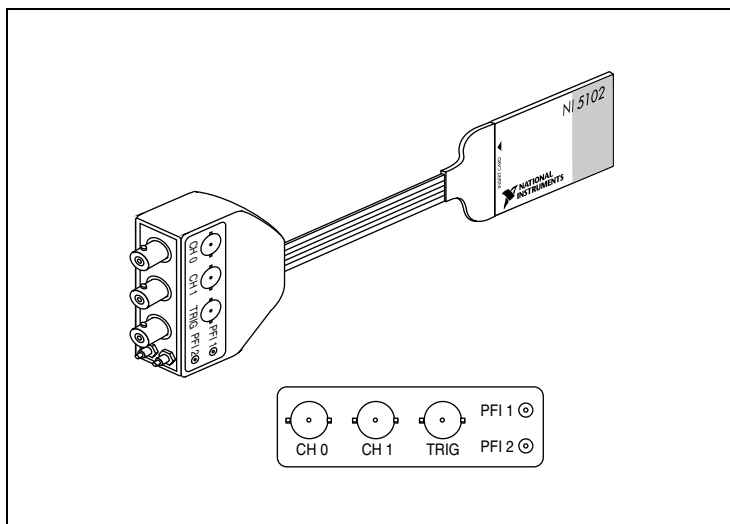

Figure 10. NI PCMCIA-5102 Front Panel
- ◆ **NI PCMCIA-5102**—Figure 10 shows the NI PCMCIA-5102 front panel. Use the cable assembly provided with the digitizer for the connections on the NI PCMCIA-5102.